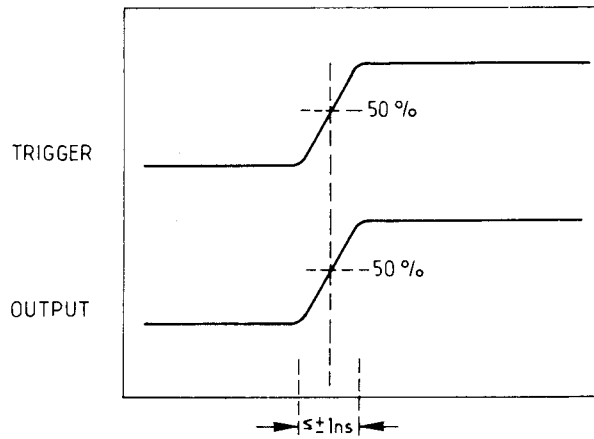

Figure 4-5. Min. Delay Limits.
3. With oscilloscope set to 1 ns/div, measure distance between trigger output and output pulse at the 50% line. The minimum delay should be as shown in figure 4-5. Take into account delay differences of Channel A and Channel B of Scope.